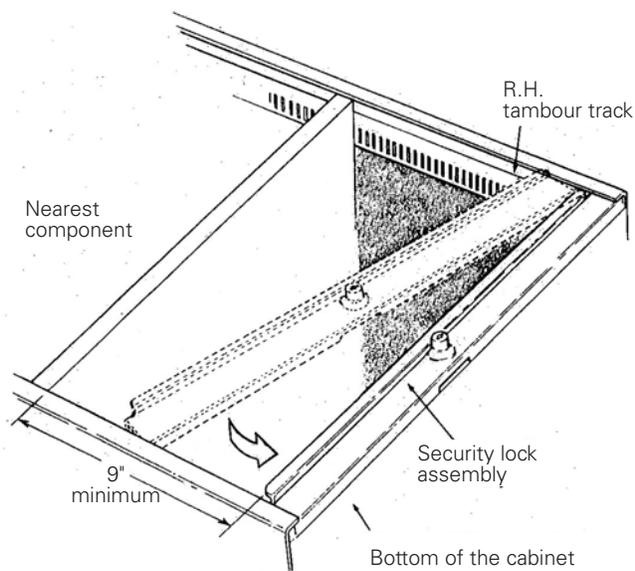
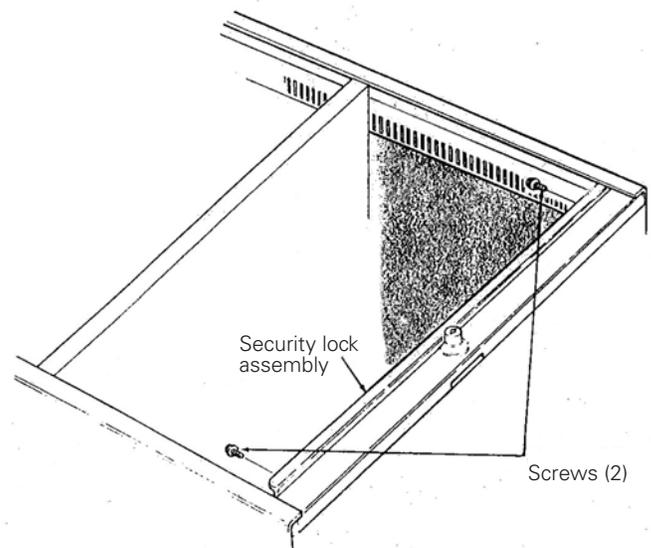

Figure 2. Security lock installation
Figure 3. Attaching the security lock
4. Install the security lock assembly from inside the cabinet (see Figure 2). Lay the R.H. end of the lock assembly into the R.H. tambour track near the bottom of the cabinet, then lower the L.H. end of the lock assembly down into the L.H. tambour track. Attach the lock assembly with two screws (see Figure 3).